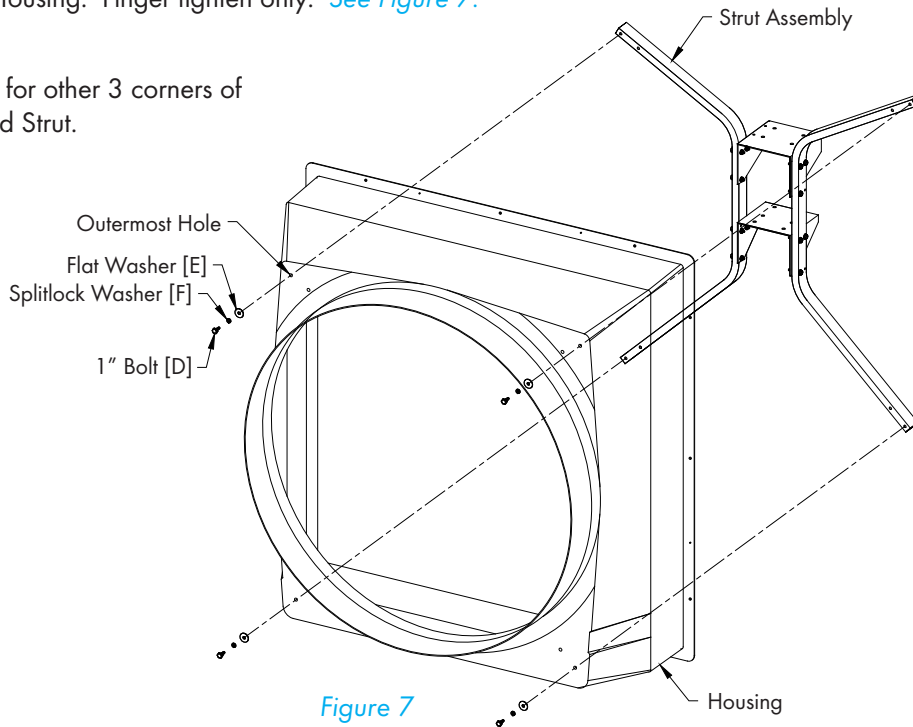

Figure 7
Position assembled H-Strut Assembly into fan housing with the Exhaust Side (threaded inserts) against the housing. See Figure 7.
Align outermost hole in the top Left Strut to outermost hole in the corner of fan housing and fasten using (1) 1" Bolt [D], Splitlock Washer [F] and Flat Washer [E] from the outside of fan. Be sure Flat Washer [E] is against Fan Housing. Finger tighten only. See Figure 7.